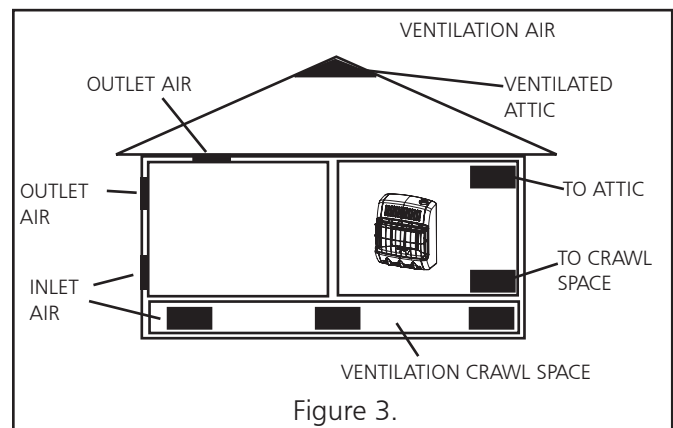

Figure 3.
- Vent room directly to the outdoors. See Ventilation From Outdoors (Fig. 3).